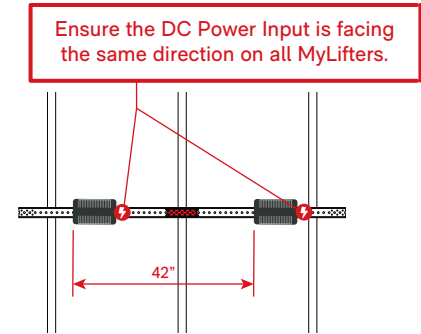

fig 3.6
15. Distance between the MyLifters on the Smart Track should match the 42" distance between the two pulleys on the Multi-Bike XL frame. This is key to proper MyLifter operation and ensures the cables will be as vertical as possible. Failure to follow this guideline can damage the MyLifter. (fig 3.6)
16. To install MyLifters on the Smart Track, align the holes on the MyLifter frame with the holes on the Smart Track. **NOTE: All MyLifters should be installed with the DC power input end of the MyLifter facing in the same direction.** This is imperative to ensure proper operation of the MyLifter(s). (fig 3.6)